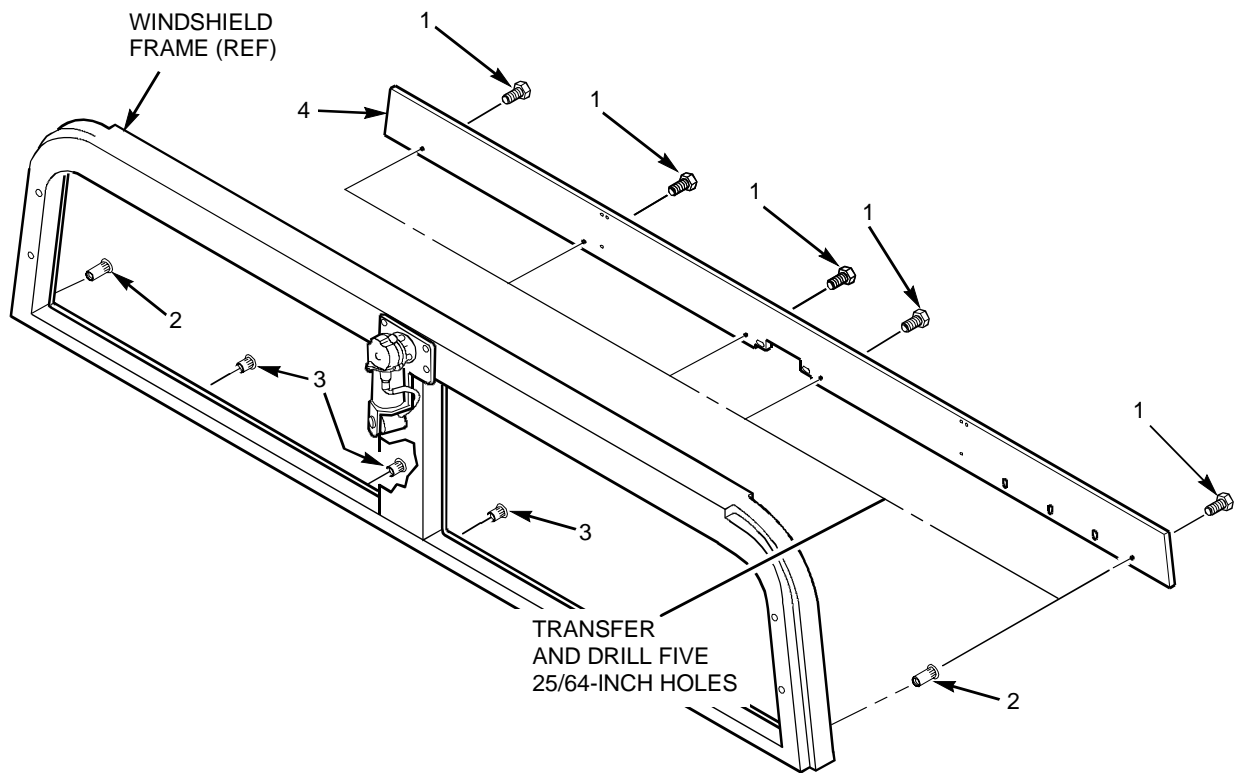

Figure 1-26. Lower Capping Ring Installation (2 and 4 Door)
- 2) Install lower capping ring as follows (see figure 1-26).
- a. Position and align lower capping ring assembly (4) onto windshield frame and transfer five hole locations to windshield frame.
- b. Drill five 25/64-inch holes in windshield frame. Install two long upset fasteners (2) to the outer edges of the windshield frame. Install three short upset fasteners (3) to the inner windshield frame per figure 1-26.
- c. Apply sealing compound to capscrews (1).
- d. Install lower capping ring assembly (4) onto windshield frame and secure with five capscrews (1).
- e. Torque capscrews (1) to 6 lb ft (8 N•m).